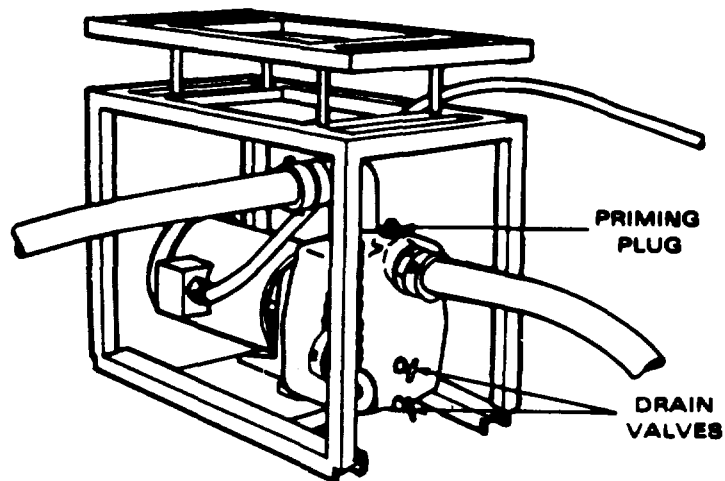

Figure 2-43. Raw Water Pump (Prime and Drain)
- d. Regulate Product Flow Valve. Turn the REGULATE PRODUCT FLOW VALVE handle fully counterclockwise to the open position (Fig. 2-43).